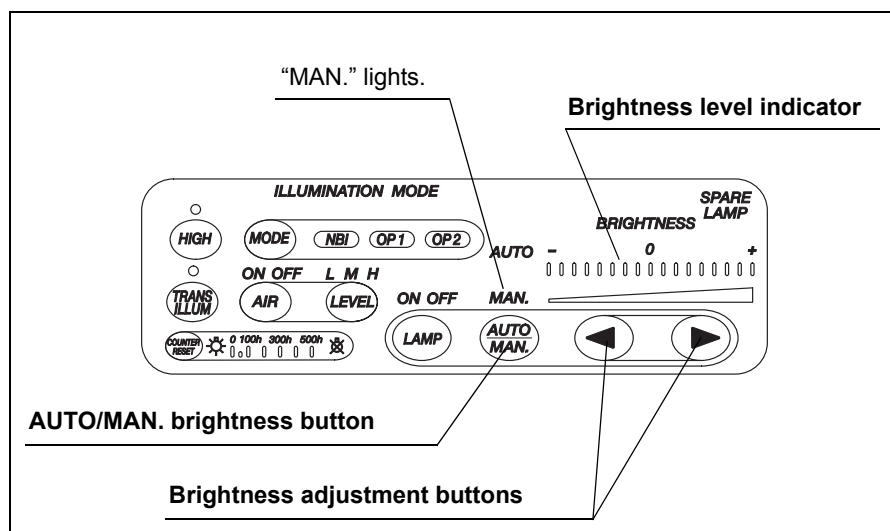

Figure 4.7
1. Press the AUTO/MAN. brightness button to select manual brightness adjustment (see Figure 4.7).